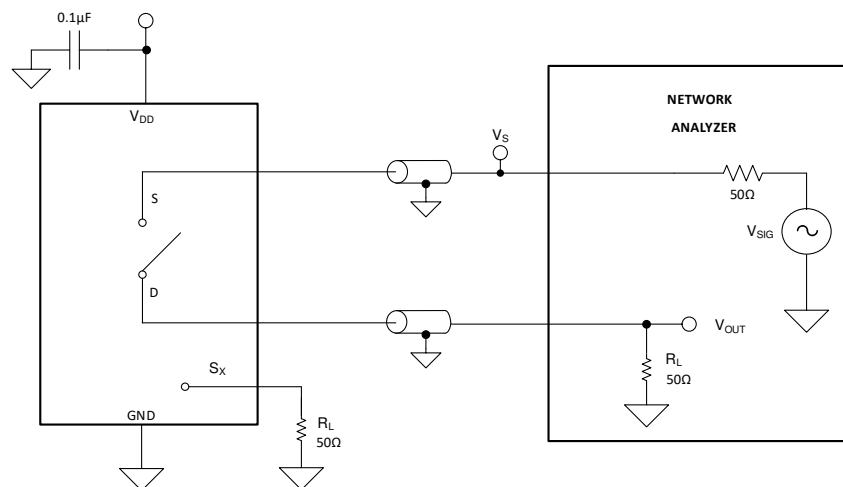

图 14. Off Isolation Measurement Setup
Off isolation is defined as the ratio of the signal at the drain pin (D) of the device when a signal is applied to the source pin (Sx) of an off-channel. Figure 14 shows the setup used to measure, and the equation used to calculate off isolation.